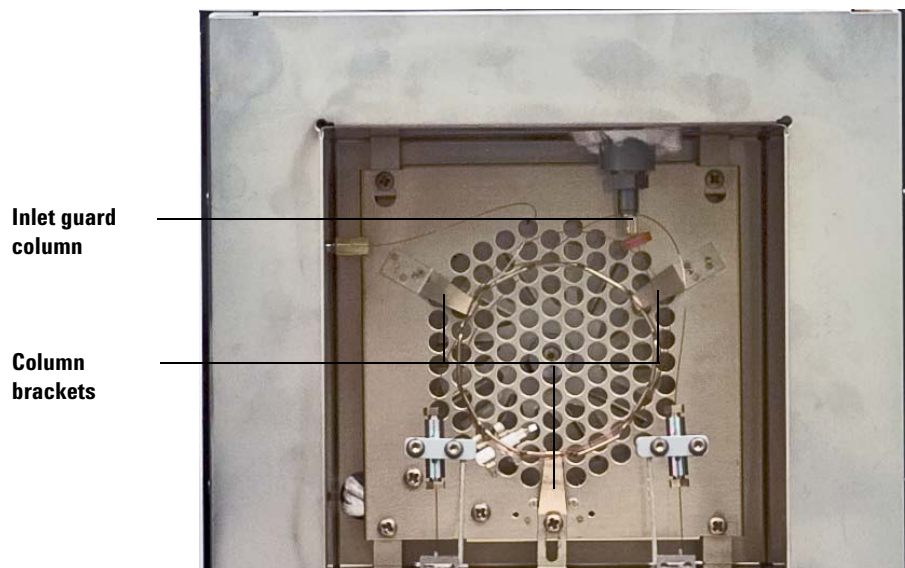

Figure 7 Column brackets
- 11 Carefully wind the guard column clockwise around the three column brackets. See Figure 7.
- 10 Carefully wind the guard column clockwise around the three column brackets. See Figure 7.